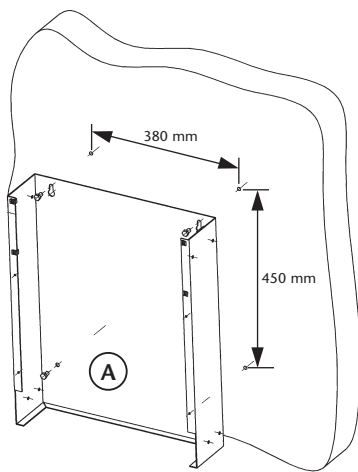

Fig. 1
1. Fix body (A) to the wall by using max. 8mm. Ø screws (not supplied). (See figure 1).